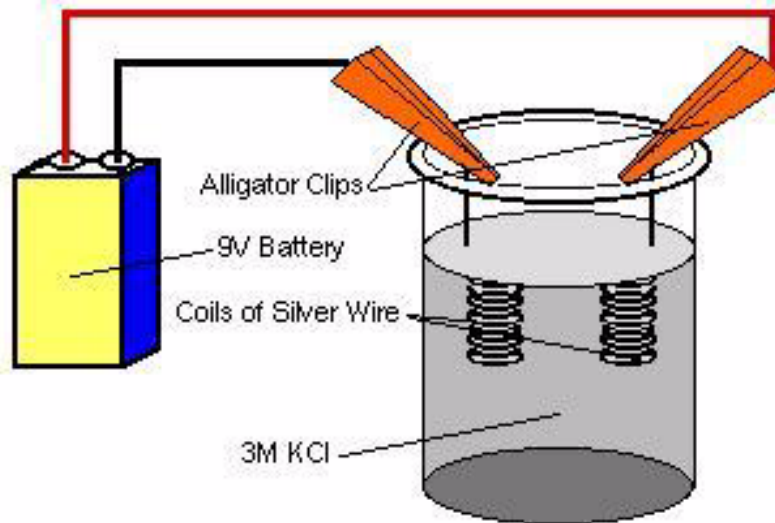

Figure 3-8: Setup used to chloride silver wire.
- 7 Position each alligator clip in the wax or clay on opposite sides of the rim of the beaker, so that the two wire coils are in solution (Figure 3-8 on page 15). **It is important that one wire coil does not touch the other, and that the alligator clips or the lead wires of the battery connector are not in solution!**